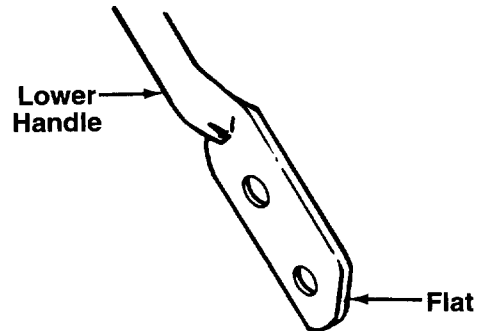

FIGURE 12.
3. Turn the lower handle around so the flat on the bottom is facing upward as shown in figure 12. Reassemble, placing the bottom holes in the handle over the weld pins in the handle mounting bracket.